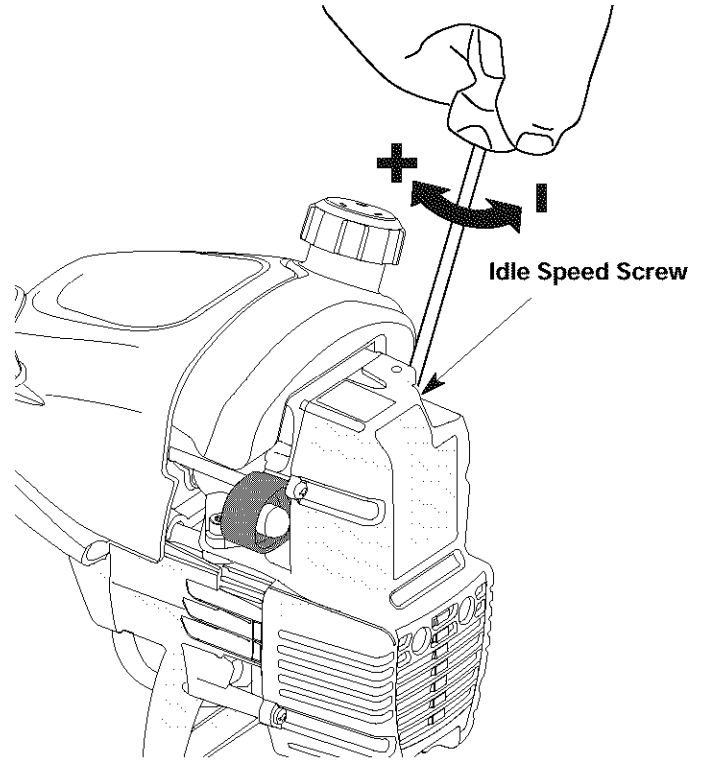

Fig. 43
The idle speed of the engine is adjustable through the Air Filter/Muffler cover (Fig. 43).
2. Release the throttle trigger and let the engine idle. If the engine stops, insert a small phillips or flat blade screwdriver into the hole in the air filter/muffler cover (Fig. 43). Turn the idle speed screw in, **clockwise**, 1/8 of a turn at a time (as needed) until the engine idles smoothly.